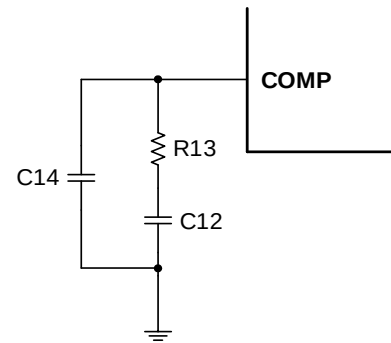

Figure 12: COMP External Compensation
The COMP external compensation sets one pole and one zero (see Figure 12). The pole's frequency (f_{p1}) can be calculated with Equation (26):